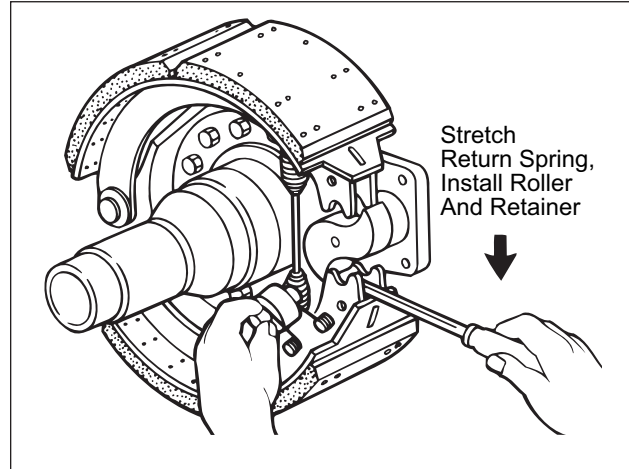
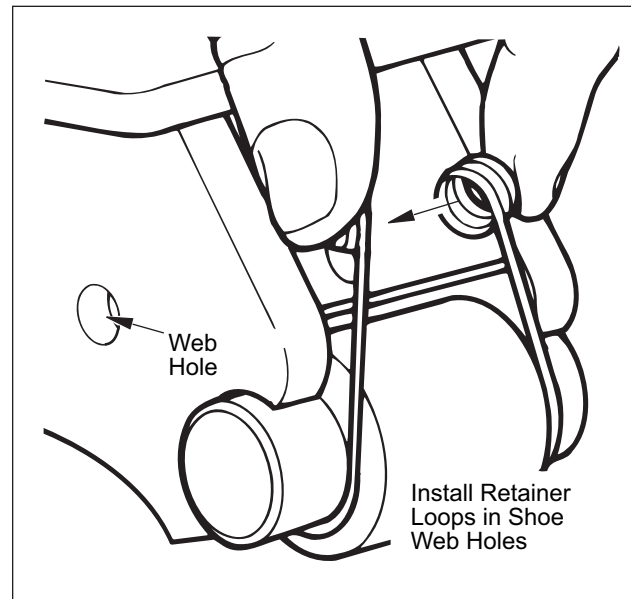

Figure 73. Roller and Retainer Installation
Figure 74. Retainer Installation
10. Using a lever or large screwdriver, stretch shoe return spring to allow installation of new roller and retainer assembly on lower shoe web. Refer to Figure 73.
11. Position roller and retainer in shoe recess as shown in Figure 73. Squeeze loops and swing retainer into position to snap loops in shoe web holes. Refer to Figure 74. Verify that both retainer loops are engaged in web holes before proceeding.